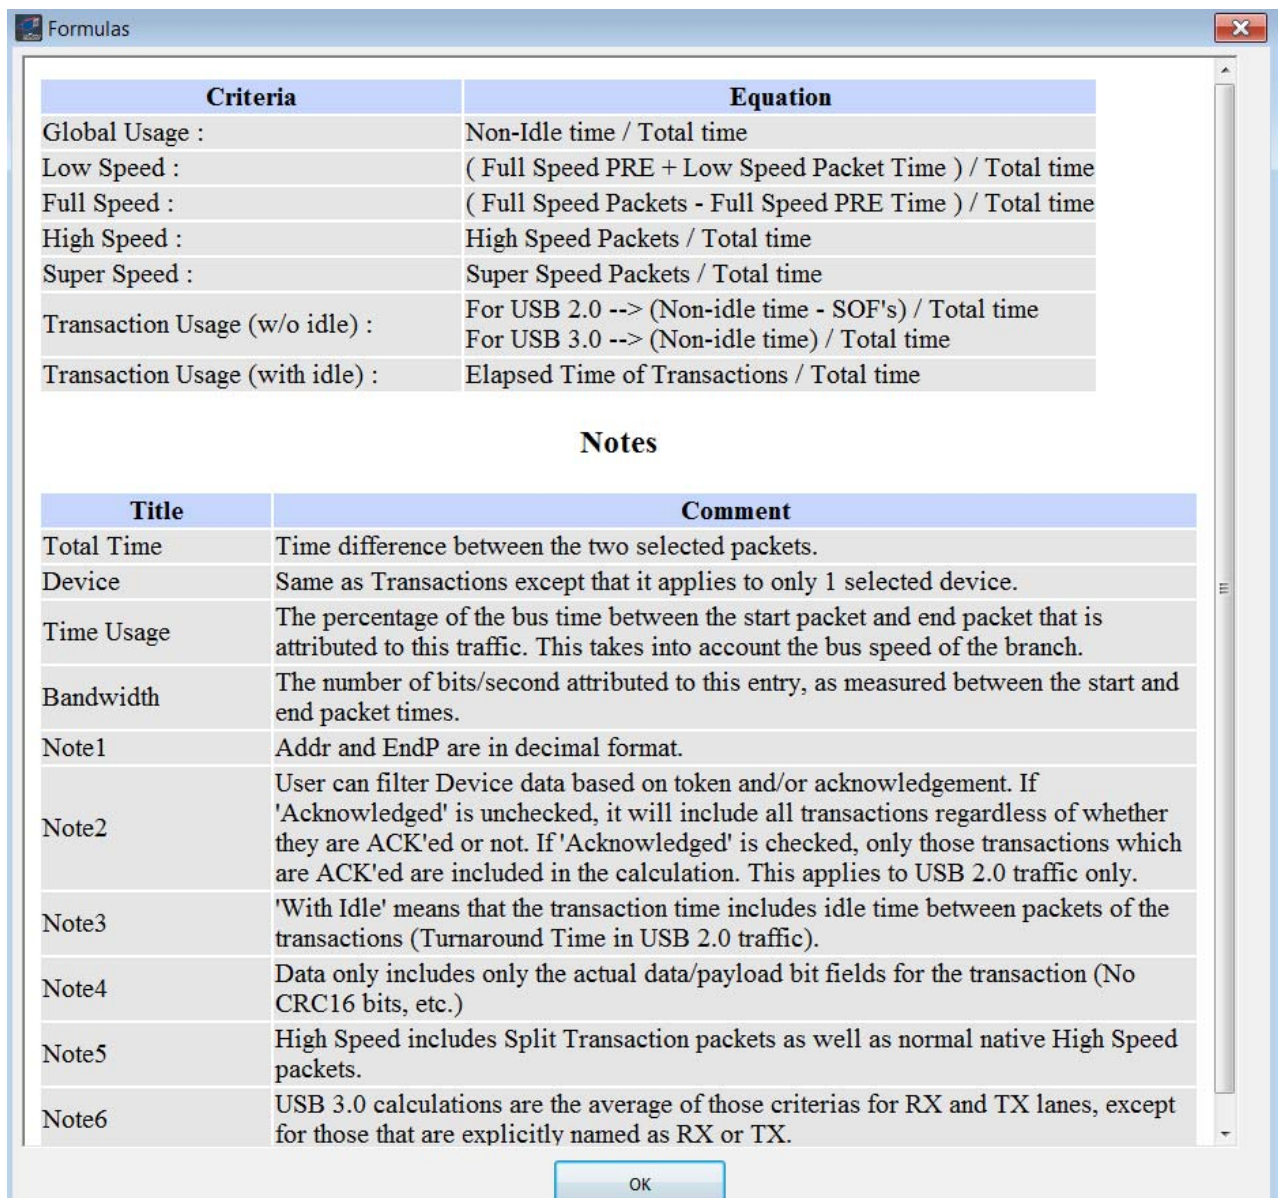

Figure 9.8: Formulas Window
4. Click the **Show Formulas** button to display the Formulas window (see Figure 9.8 on page 219, with the formulas used).